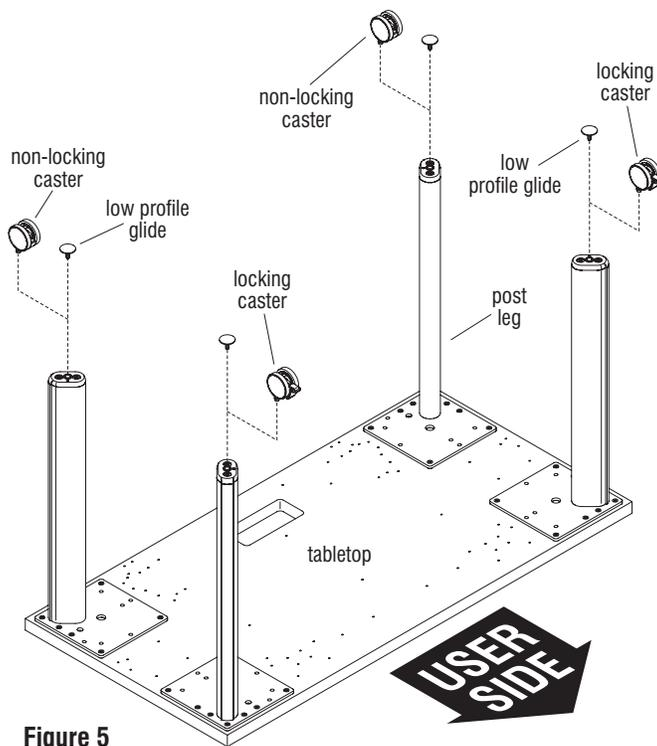

Figure 5
1. Locate the locking and non-locking casters. Locking casters are to be installed to the legs at the front, user side of the table (opposite side as optional tabletop cutouts, and non-locking casters are to be installed to the rear legs and any middle legs of the table. Press in fully to install the stem of one locking and one non-locking caster into the caster mounting holes at the underside of each leg (Figure 5).
3. Thread the stem of each glide into the threads at the end of each leg (Figure 5).